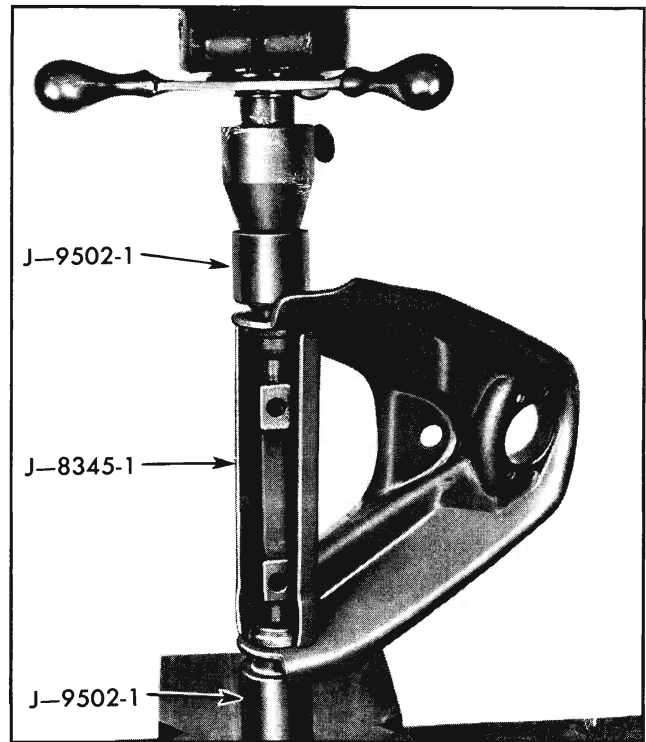

Fig. 3-25 Installing Cross Shaft and Bushing
1. Install cross shaft and bushings and press bushing into arm using J-8345-1 to prevent collapse of control arm (Fig. 3-25).